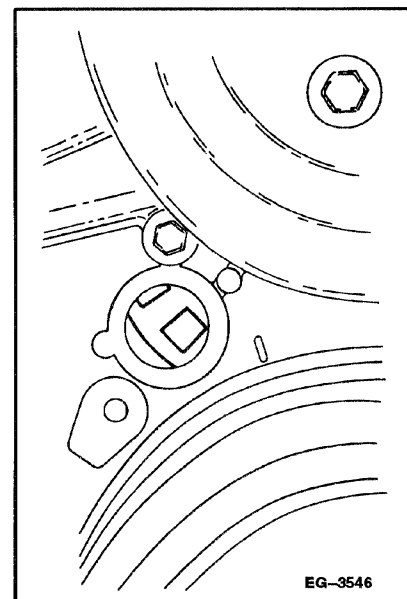

Figure 4.3. – View of Timing Disk
- If no narrow vane is visible it is most likely that the engine is not on the compression stroke for #1 cylinder. **Figure 4.3.** Temporarily install CMP sensor, bar the engine over 360° until the CMP sensor pointer and the line on the crankshaft damper are aligned and re-inspect for the narrow vane on the timing disk.